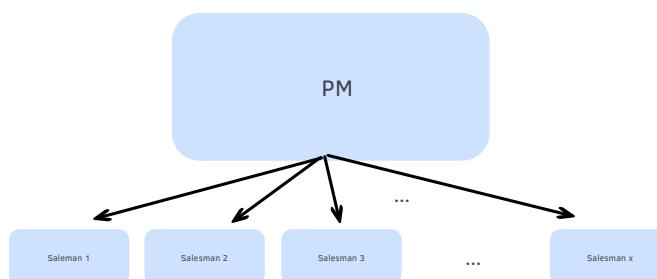

Fig. 5: PM Hierarchy
- Finally, the *PM Hierarchy*, which is constituted by *PM* and *Salesman*, Figure 5.